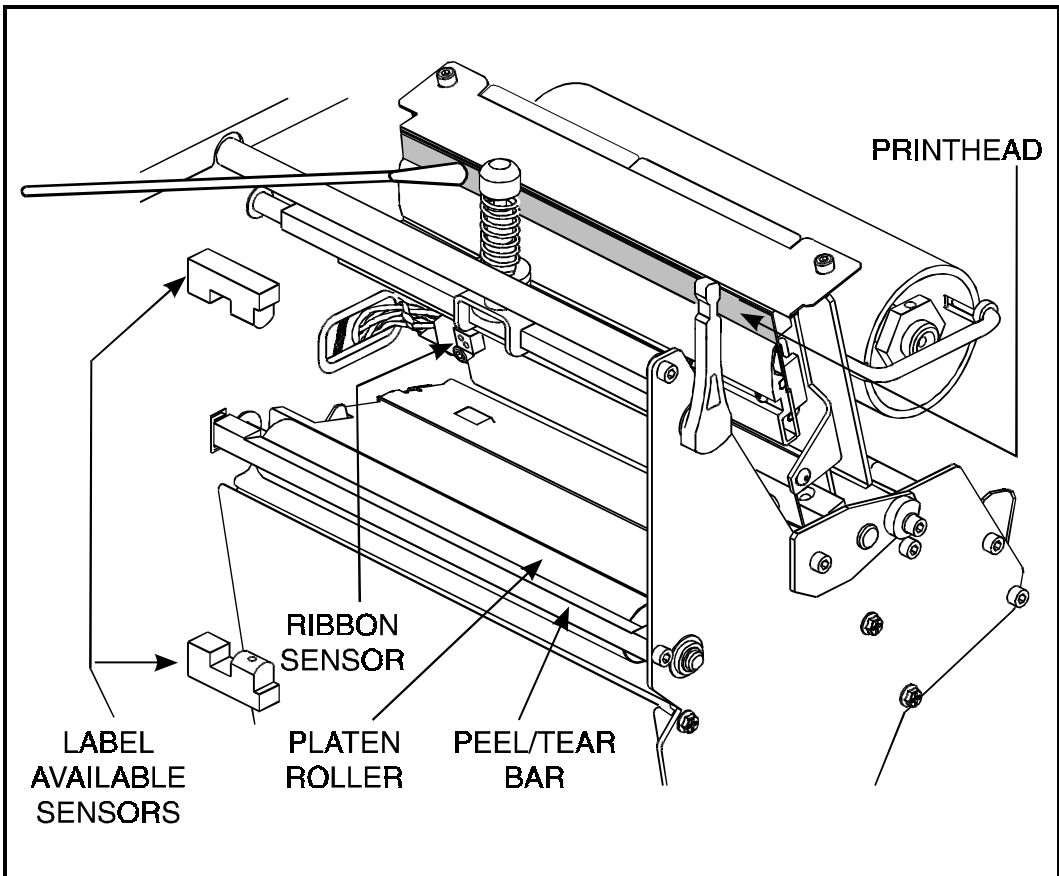

Figure 6.1 Printhead Cleaning
To clean the printhead and platen roller, open the media compartment door, refer to Figure 6.1, and perform the following steps:
3. Moisten an applicator tip with Brady USA, Inc.-recommended solvent and wipe the print elements from end to end. (The print elements form the gray/black strip just behind the chrome strip. See Figure 6.1.) Allow a few seconds for the solvent to evaporate.
These sensors should be cleaned on a regular basis to ensure proper operation of the printer. To locate the position of these sensors, refer to Figures 6-1, 7-2, and 7-3.